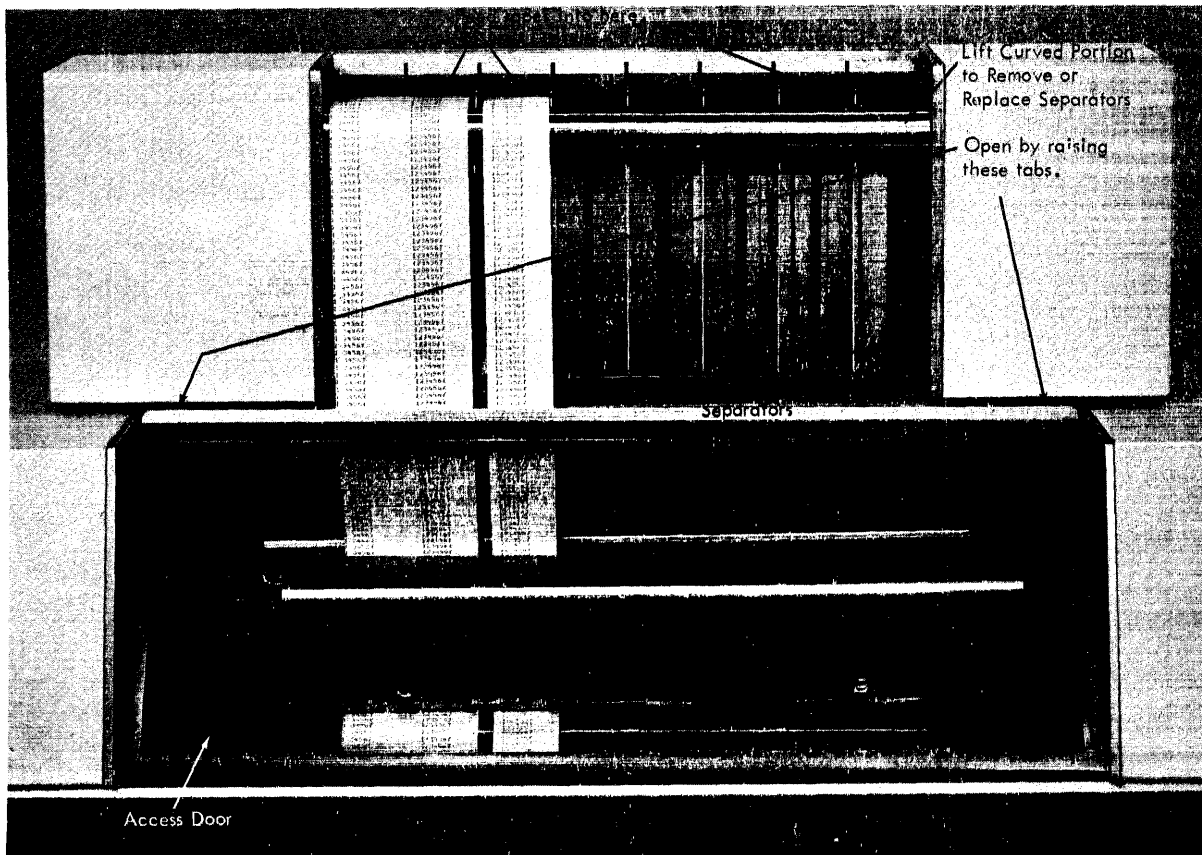

Figure 46. Top Stacker for Selective Tape Listing Feature on Model N1
11. Open the clear access door (Figure 46) located just below the top stacker, and draw tapes to the stacker.
12. Adjust any of the four removable pocket separators to accommodate double-width tapes. Unused separators can be stored at either end of the stacking device (Figure 46).